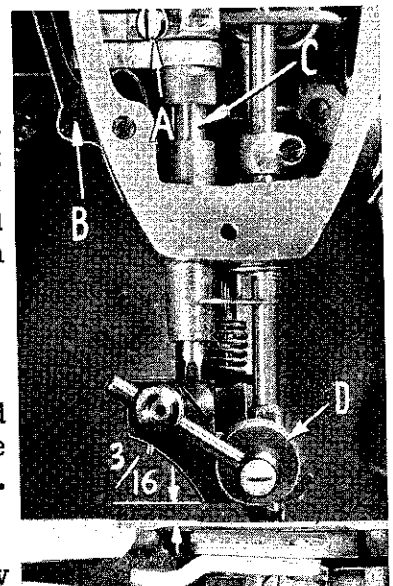

Fig. 7
To make this adjustment, loosen screw (A, Fig. 7), and with the hand lifter (B) up, move the presser bar (C) to secure proper height of presser foot and retighten screw (A).